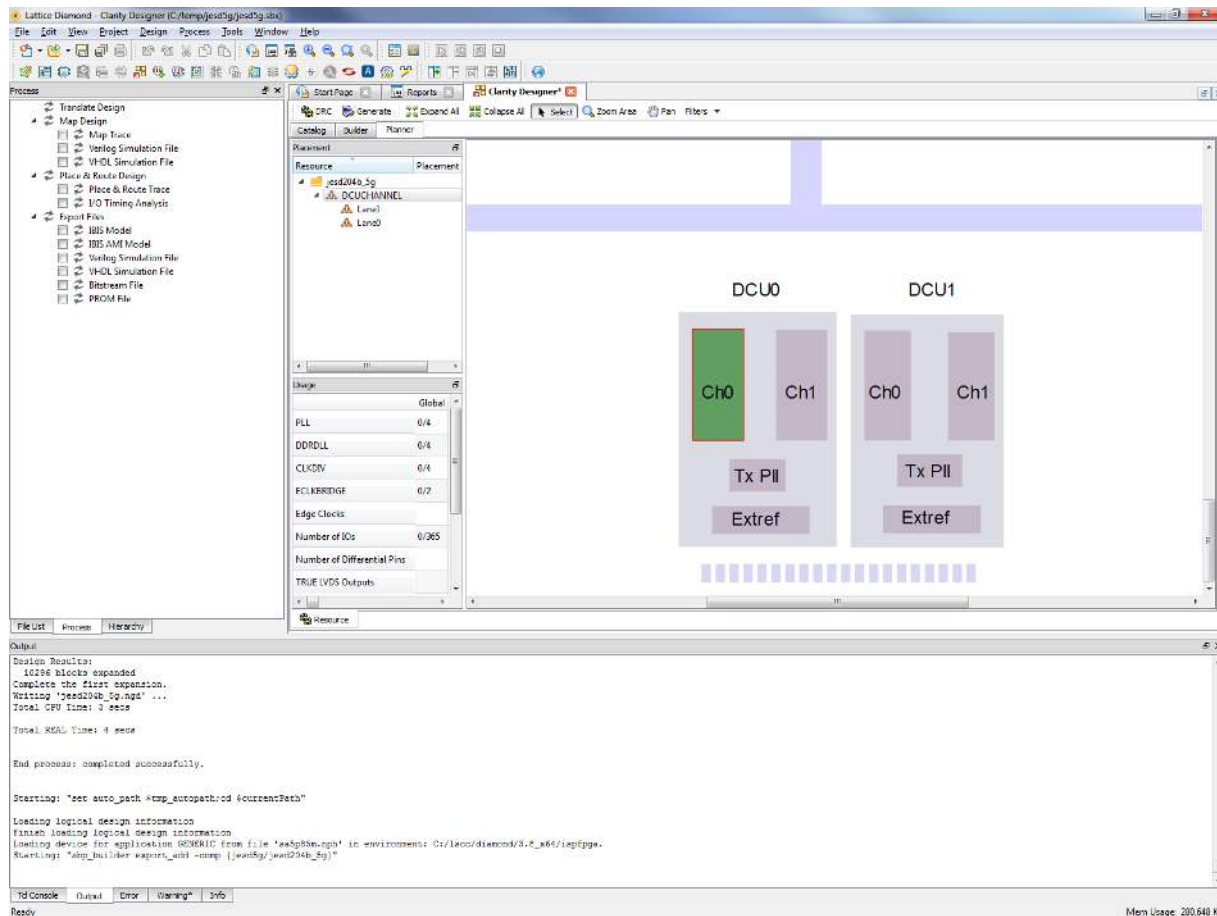

Figure 4.6. Place and Generate JESD204B IP in Clarity Designer
7. Click the **Planner** tab in the Clarity Designer user interface as shown in Figure 4.6. The configured IP instance is shown.